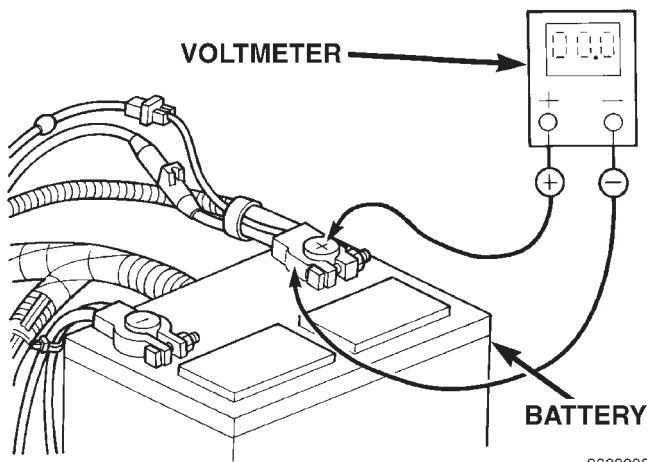

Fig. 11 Test Battery Positive Connection Resistance - Typical
(2) Connect the positive lead of the voltmeter to the battery positive terminal post. Connect the negative lead of the voltmeter to the battery positive cable clamp (Fig. 11). Rotate and hold the ignition switch